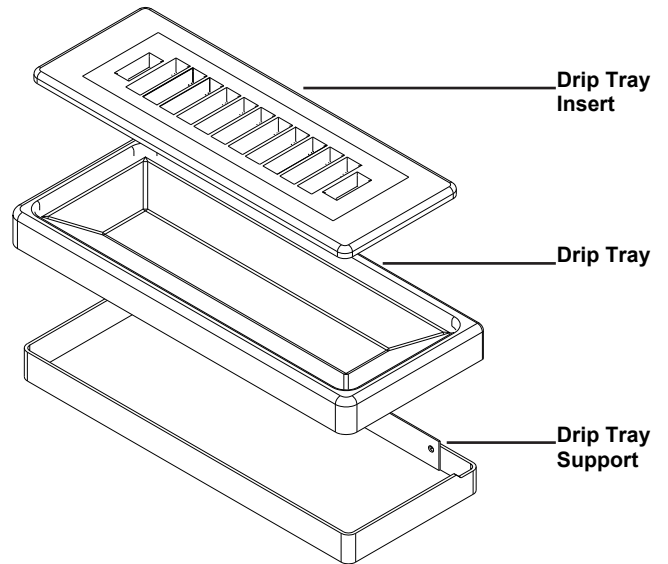
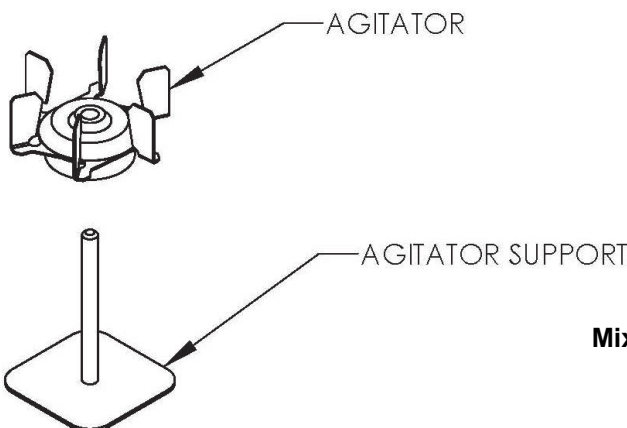

Fig. 14
Fig. 13
8. Remove the mix pan lid, mix pan agitator assembly (Fig. 13), drip tray and drip tray insert (Fig. 14).
11. After thoroughly washing the parts in the detergent solution, rinse them in the rinse water. Place the parts in the sanitizing solution for at least five (5) minutes or whatever your local Health Authority requires, and then air dry them to prepare for assembly and lubrication. **DO NOT** wipe dry.